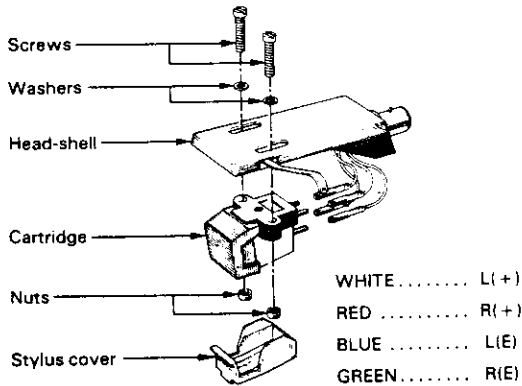

Fig. 12
- Carefully push the connectors of head-shell leads onto the appropriate pins of the cartridge. Refer to Fig. 12 for lead colors. Use a pair of tweezers or long-nosed pliers to handle the connectors.